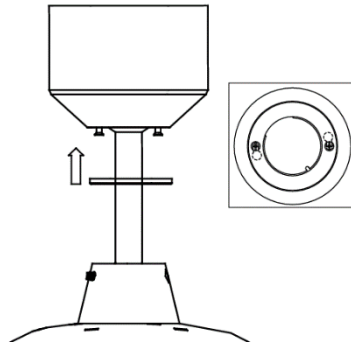

Fig. 6
- Cover the mounting bracket with the canopy cover. Ensure all electrical wirings is tucked inside the canopy and that it is not damaged during this step, and secure with screws. **Fig. 6**
Finally attach the canopy cover to the canopy screws by turning it clockwise. **Fig. 6**